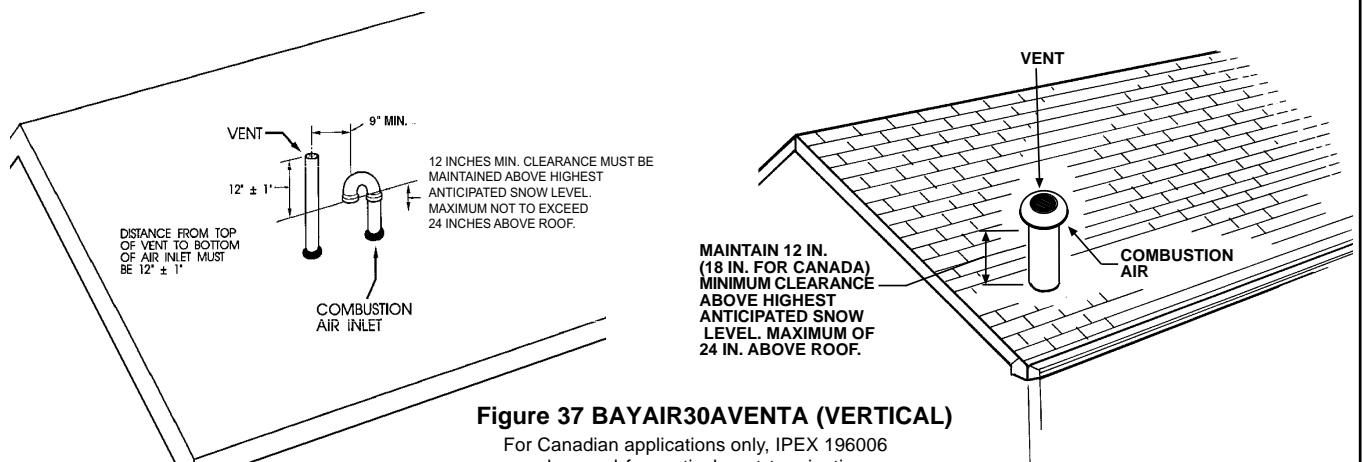

Figure 37 BAYAIR30AVENTA (VERTICAL)
**NOTE:** No vent cap as shown in Figure 37 is the preferred method for vertical vent termination in extremely cold climates.